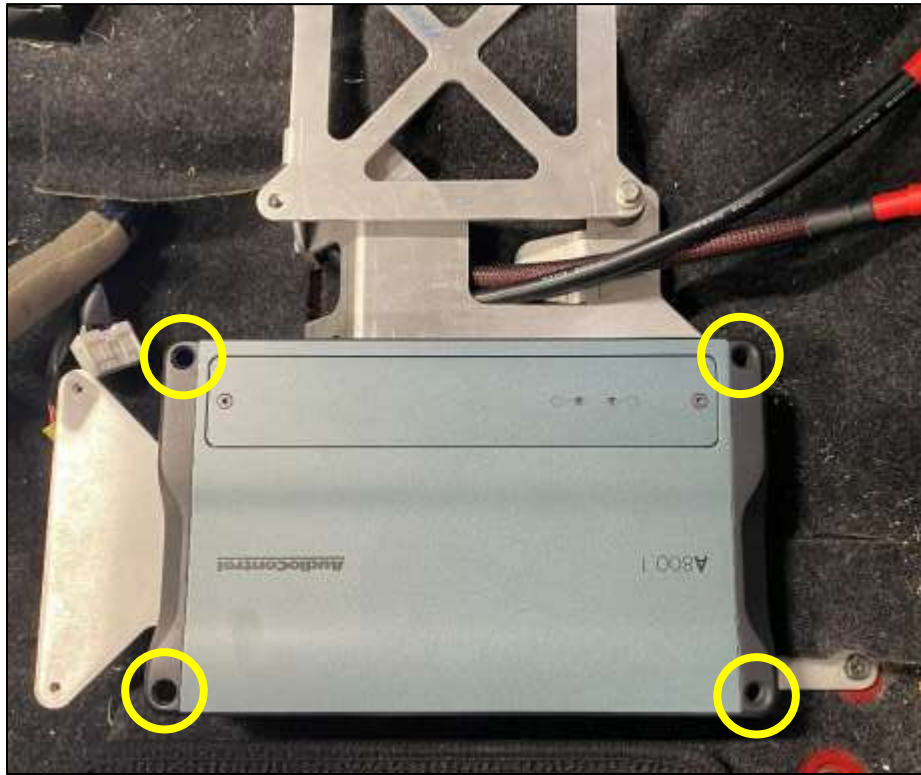

Figure 15
20. Tighten the (3) three Amp Bracket screws to secure the Brackets to the vehicle.
21. Locate the new Amp and (4) four M4 Socket Head Screws, 10mm. Secure the Amp to the Amp Bracket with the M4 Hardware. Make sure the Amp Ports face the front of the vehicle. *Figure 15.*